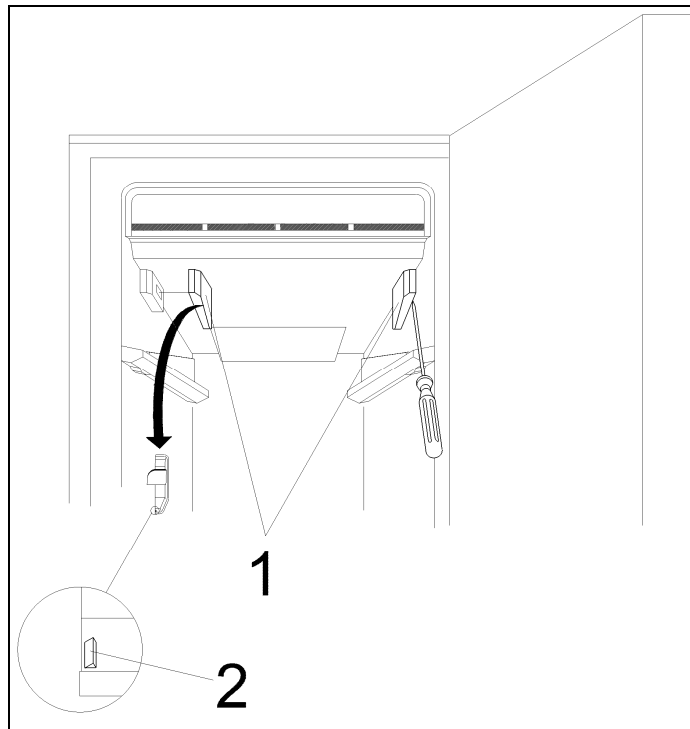

Figure 010-15: Evaporator Covers
3. Lever off the covers (Figure 010-15, Item 1) by pressing the retainers out of the way with a small flathead screwdriver (Figure 010-15, Item 2).